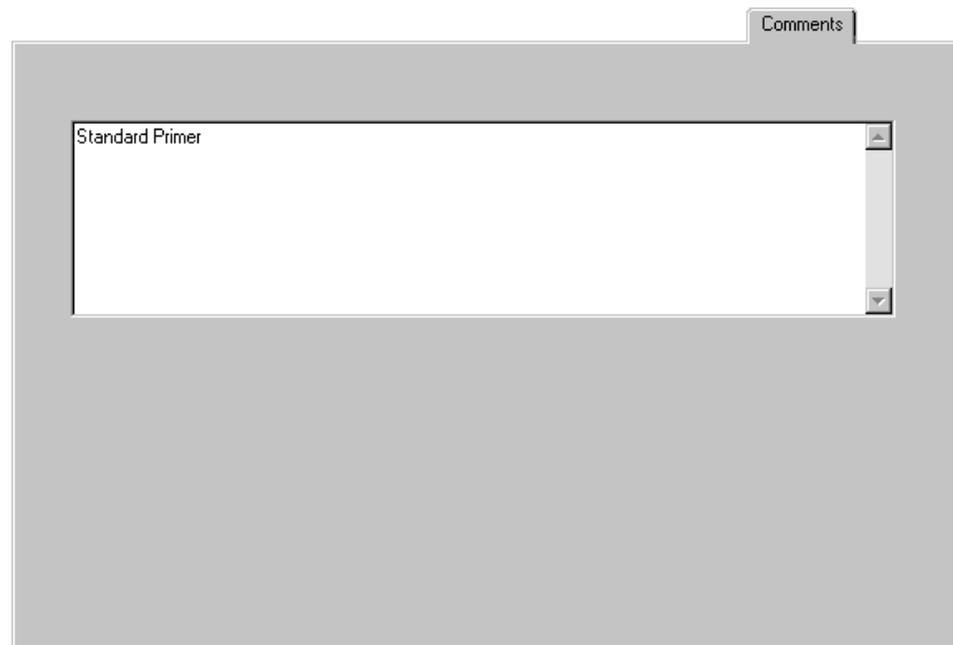

Figure 6-5. The Comments tab of the Plate Setup window.
- Comments tab (figure 6-5)
Comments (figure 6-5)	<p>You can specify any comments about the plate. The software stores the plate comments in the extended header of each raw sample data file (.rsd) from the run.</p>
- (Optional) In the **Comments** tab (figure 6-5), type or edit comments about the plate.